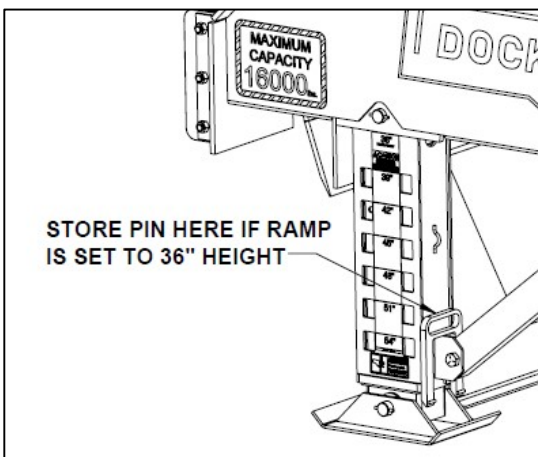

Figure 7. Storing the Pin
- b. If a 36" dock height is desired the horseshoe pins must be left out (Figure 7).